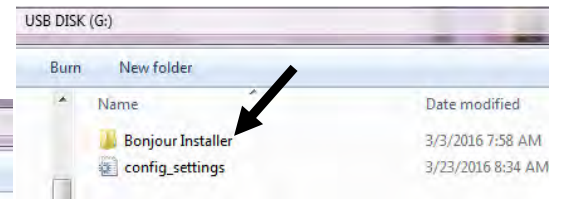

Figure 2
5. Navigate to the USB drive if it doesn't open automatically (see Figure 2).